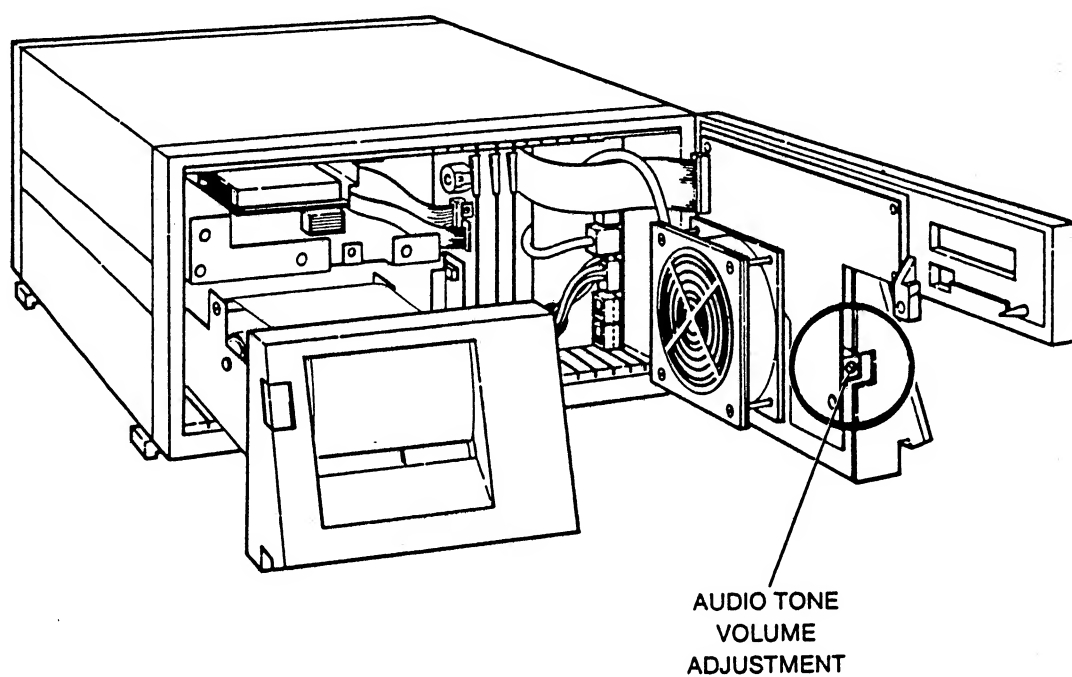

Figure 5-4. Audio Tone Volume Adjustment (2280A shown)
6. While pressing the space key, adjust R2 on the display circuit board (see Figure 5-4) until the tone is acceptable.